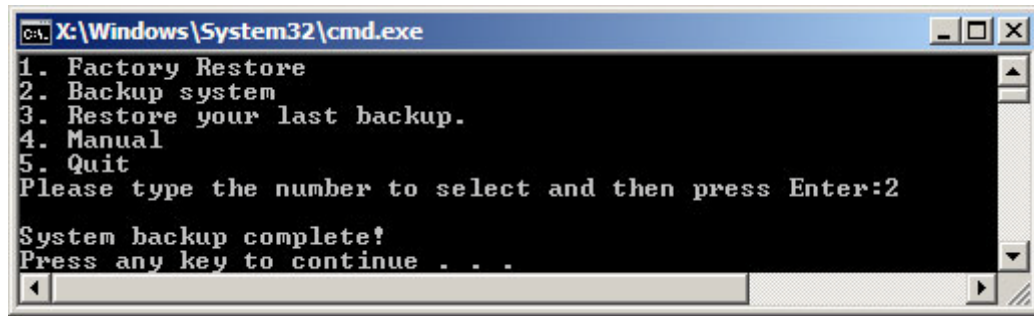

Figure A-37: System Backup Complete Window
Step 3: The screen is shown as in **Figure A-37** when system backup is completed.